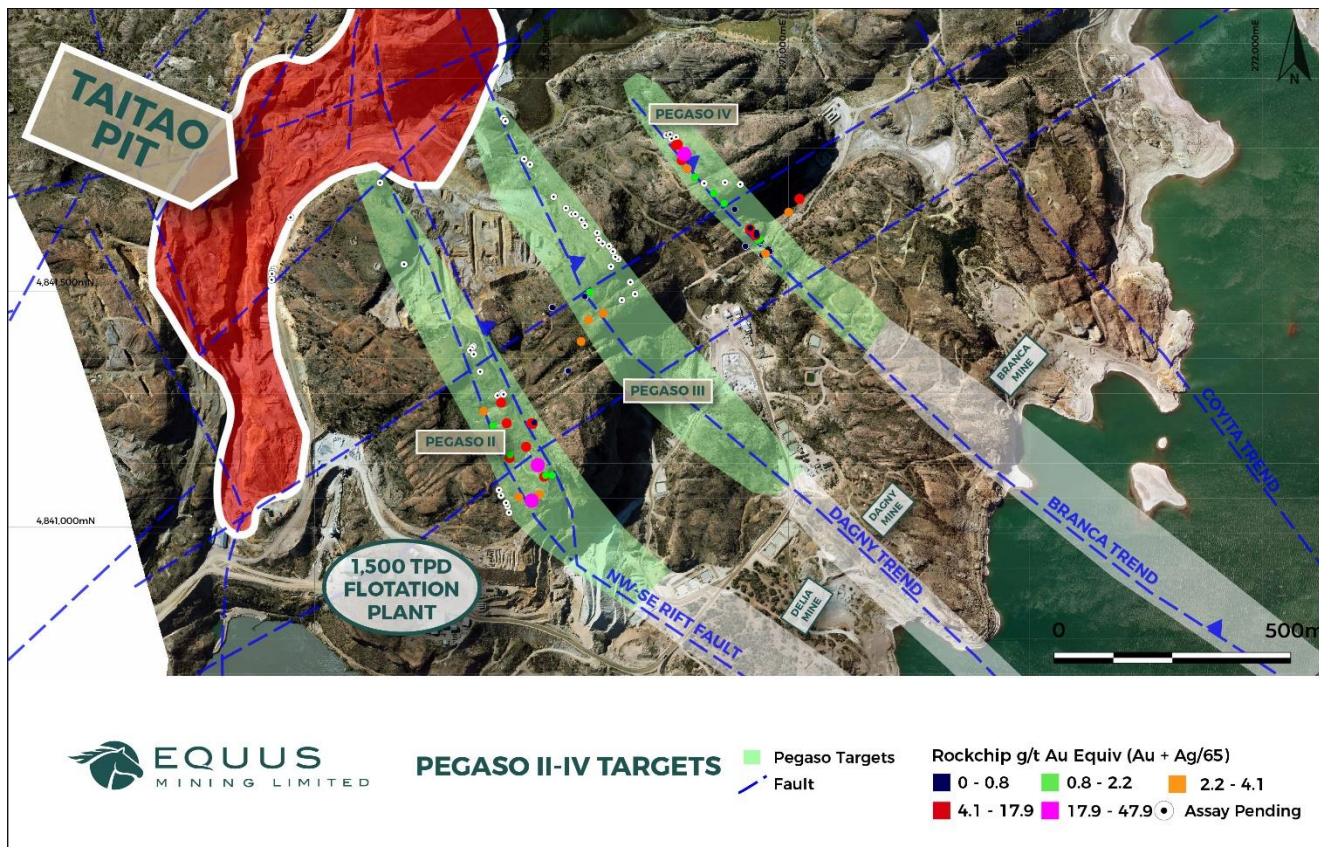

Figure 1 – Pegaso Targets, with location of rock-chip samples within the mapped vein hosting trends
- ▶ The Company completed a detailed mapping and sampling program across the Pegaso II, Pegaso III, and Pegaso IV Targets in advance of a planned 25-hole (5,500m) Diamond Drilling program (Figure 1).